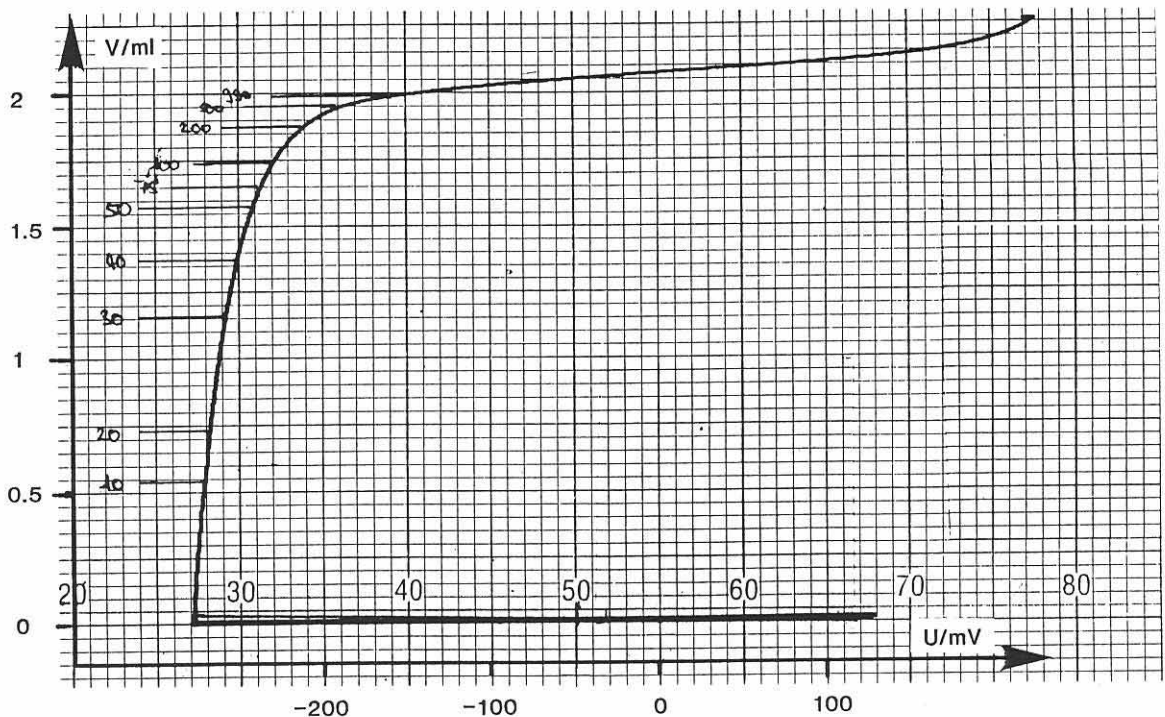

Fig. 3.1
/start slopemV/ml/	For measured quantity U/mV (0...999 mV/ml, OFF). Start condition: feed of titration reagent with max. titration rate (depending on the volume of the burette), see Fig. 3.1. The unit "/ml" or "mV/ml" resp. can be displayed pressing <input type="button" value="→"/> (cursor).
3. start slope (see Fig. 3.1)